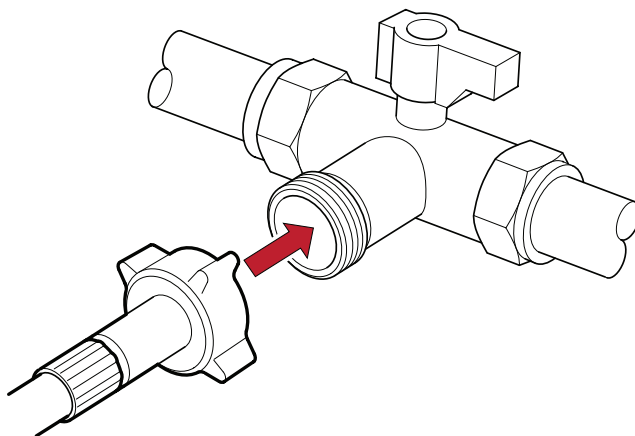

Figure 5
- 1 Connect the angled end of the fill hose to the cold water inlet at the rear of the Washer Dryer by screwing clockwise until hand tight (see Figure 5).